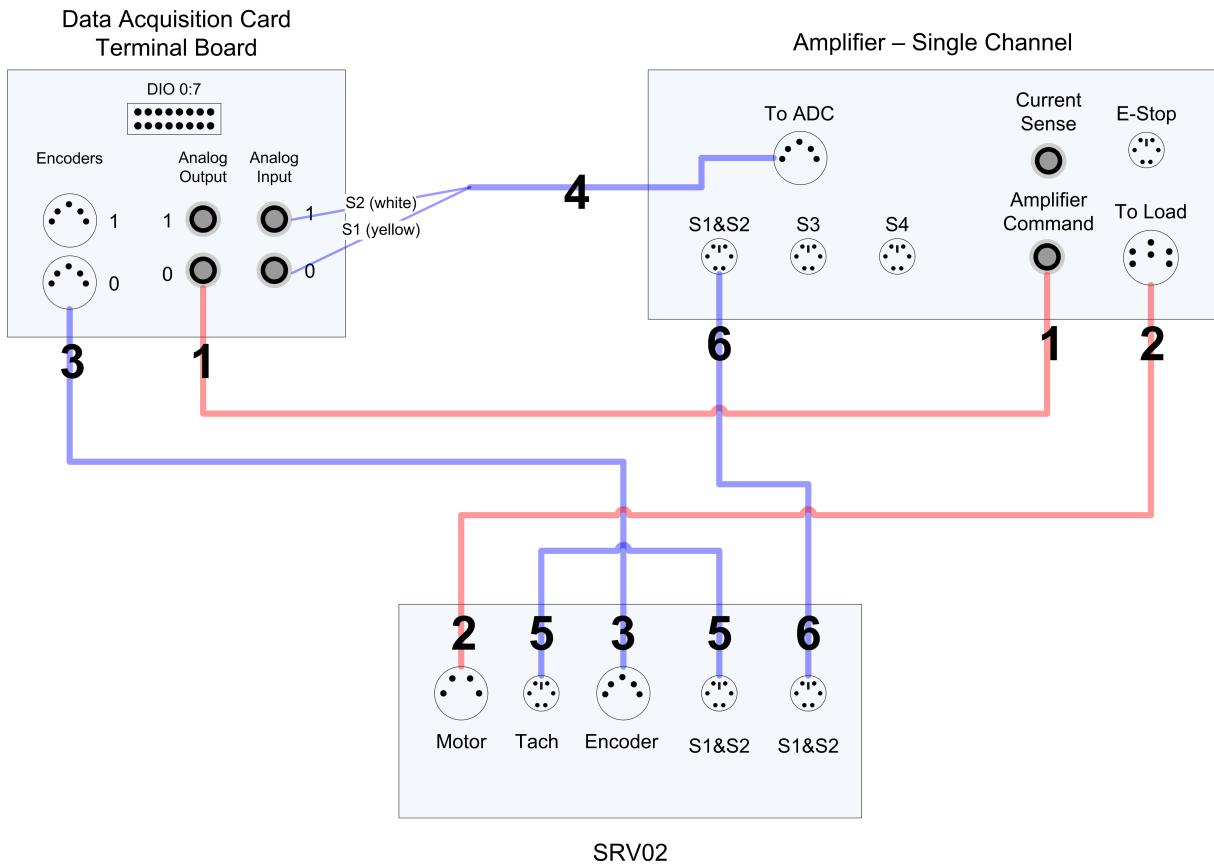

Figure 5.1: Connecting the SRV02 to a Single-Channel Amplifier and Two-Channel DAQ
This section describes the typical connections used to connect the SRV02 plant to a data-acquisition board and a power amplifier. The connections are described in detail in the procedure below, summarized in Table 5.2, and pictured in Figure 5.1.
Note: The wiring diagram shown in Figure 5.1 is using a two-channel data-acquisition board, which resembles a Quanser Q2-USB. The same connections can be applied for any data-acquisition system - as long as it has least two analog input, two analog output, and two encoder channels.
3. Connect one end of the 2xRCA to 2xRCA cable from the Analog Output Channel #0 on the terminal board to the *Amplifier Command* connector on the amplifier, i.e. use both white or both red RCA connectors. See cable #1 shown in Figure 5.1. This carries the attenuated motor voltage control signal, V_m/K_a , where K_a is the amplifier gain.
4. Connect the 4-pin-stereo-DIN to 6-pin-stereo-DIN that is labeled from *To Load* on the amplifier to the *Motor* connector on the SRV02. See connection #2 shown in Figure 5.1. The cable transmits the amplified voltage that is applied to the SRV02 motor and is denoted V_m .
5. Connect the 5-pin-stereo-DIN to 5-pin-stereo-DIN cable from the *Encoder* connector on the SRV02 panel to Encoder Input # 0 on the terminal board, as depicted by connection #3 in Figure 5.1. This carries the load shaft angle measurement and is denoted by the variable θ_l .
6. Connect the *To ADC* socket on the amplifier to Analog Inputs #0-1 on the terminal board using the 5-pin-DIN to 4xRCA cable, as illustrated in Figure 5.1. The RCA side of the cable is labeled with the channels: yellow is S1, white is S2, red is S3, and black is S4. The yellow S1 connector goes to Analog Input Channel #0 and the white S2 connector goes to Analog Input Channel #1.
7. Connect the *TACH* connector on the SRV02 to the *S1 & S2* socket on the SRV02 using the 6-pin-mini-DIN to 6-pin-mini-DIN cable. This connection is labeled #5 in Figure 5.1. It combines the potentiometer (S1) measurement with the tachometer (S2) measurement.
8. Connect the *S1 & S2* connector on the SRV02 to the *S1 & S2* socket on the amplifier using the 6-pin-mini-DIN to 6-pin-mini-DIN cable. See connection #6 in Figure 5.1. This carries the potentiometer (S1) and tachometer (S2) signals. The measured load shaft rate from the tachometer is denoted by the variable ω_l and the load shaft angle is represented by variable θ_l .